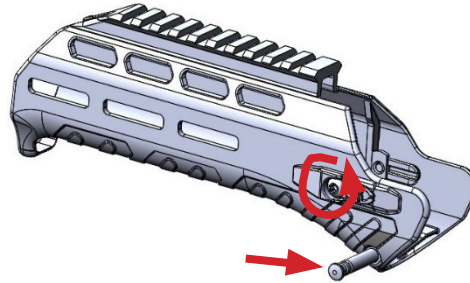

Figure 3: Remove Handguard
3. On the WLVRN handguard, use the T25 side of the multi-tool, loosen by two turns, **DO NOT REMOVE** the two T25 torqueset handguard retention screws on the right and left side of the WLVRN Handguard. (Figure 3)